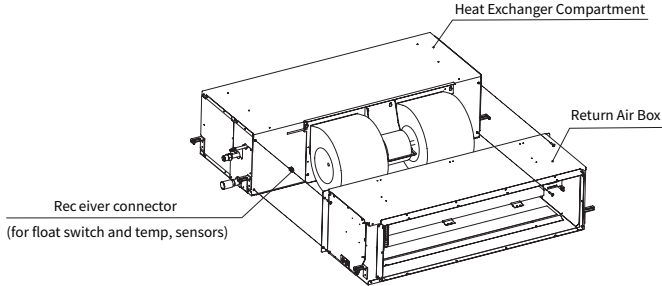

Fig.4.7
- (2) Remove the 4 bolts (M6) on the back of the supply air box, carefully pull the Return Air Box away, taking care not to damage the fan motor wiring (Fig.4.7).